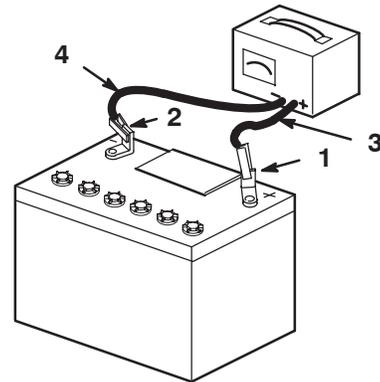

Figure 3
4. Connect a charger to the battery (Fig. 3) and charge it for a minimum of 1 hour at 6 to 10 amps. Do not overcharge the battery.
5. When the battery is fully charged, unplug the charger from the electrical outlet, then disconnect the charger leads from the battery posts (Fig. 3).